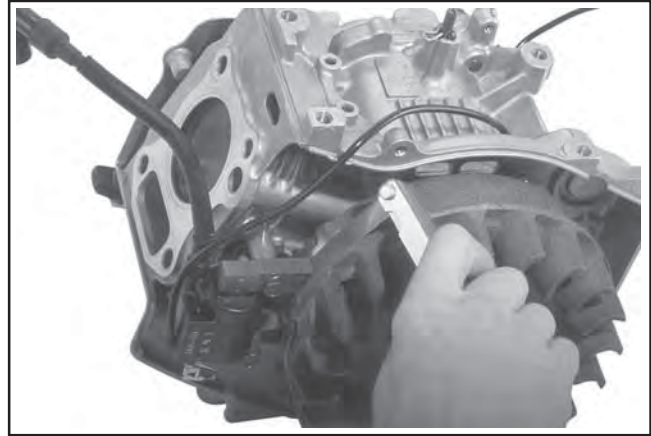

Figure 11-61. CS4, CS6. Setting Air Gap.
3. Route the ignition module lead as shown in Figure 11-61 or 11-62.
5. Insert a 0.5 mm (0.020 in.) flat feeler gauge between each leg of module and magnet. Loosen the screws allowing the magnet to draw the module against the gauge(s). Push against module to hold legs tight against the feeler gauge(s) while tightening screws. Tighten the lower screw first. **Torque screws to 10 N·m (88.5 in. lb.).** See Figures 11-61 and 11-62.